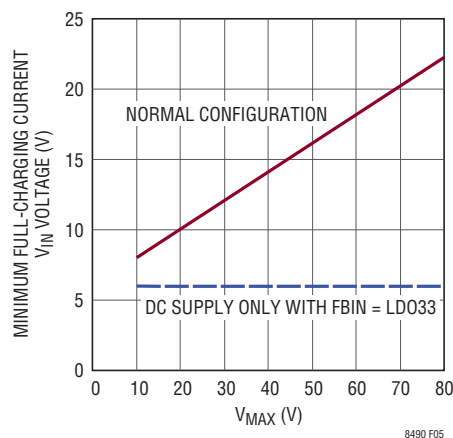

Figure 5. Minimum Full Charging Current V_{IN} Voltage
3. **LOW INPUT VOLTAGE EFFECTS:** Figure 5 shows the minimum input voltage, below which the maximum charging current can be reduced. This limit is a function of the input V_{MAX} as discussed previously in the Input Voltage and Modulation Network section. Maximum charging current can reduce as FBIN gets closer to its regulation voltage of 1.205V (typical). This is not normally a significant issue unless 1) the charger is powered by a low voltage DC power supply or 2) a low voltage panel is used with a charger that was configured for a much higher voltage panel. The farther that V_{IN} is below the Normal Configuration line in Figure 5 the more the current can reduce.
When V_{IN} is powered by a DC voltage supply, maintain V_{IN} higher than the Normal Configuration line in Figure 5. Operating V_{IN} below this line can reduce the maximum charging current and the V_{S2} and V_{S3} charging voltages. If V_{IN} is never going to be supplied by a solar panel then FBIN can be disconnected from FBIR (see Figure 3) and reconnected to the LDO33 pin. This allows the charger to operate with V_{IN} as low as 6V with no charging current or voltage reduction.
When using a solar panel supply, choose a panel having a maximum open-circuit voltage (V_{OC}) close to V_{MAX} (discussed in the prior Input Voltage Sensing and Modulation Network section). The maximum power point voltage is typically well above the voltage limit in Figure 5 and current limiting is rarely an issue. Avoid using solar panels that operate dramatically below V_{MAX} , particularly if the maximum power point voltage is typically below the Normal Configuration line in Figure 5.
MINIMUM INPUT VOLTAGE REQUIREMENT: When power supply mode is enabled, the LT8490 will operate from an input as low as 6V. However, charging current capability can become limited at low input voltages depending on the V_{MAX} voltage used to select the input voltage sensing network (see previous Input Voltage Sensing and Modulation Network section). Figure 5 shows the minimum input supply voltage required, below which charging current can become less than the maximum output current limit. If the LT8490 is powered by a DC supply only, the minimum input voltage shown in Figure 5 can be reduced to 6V by